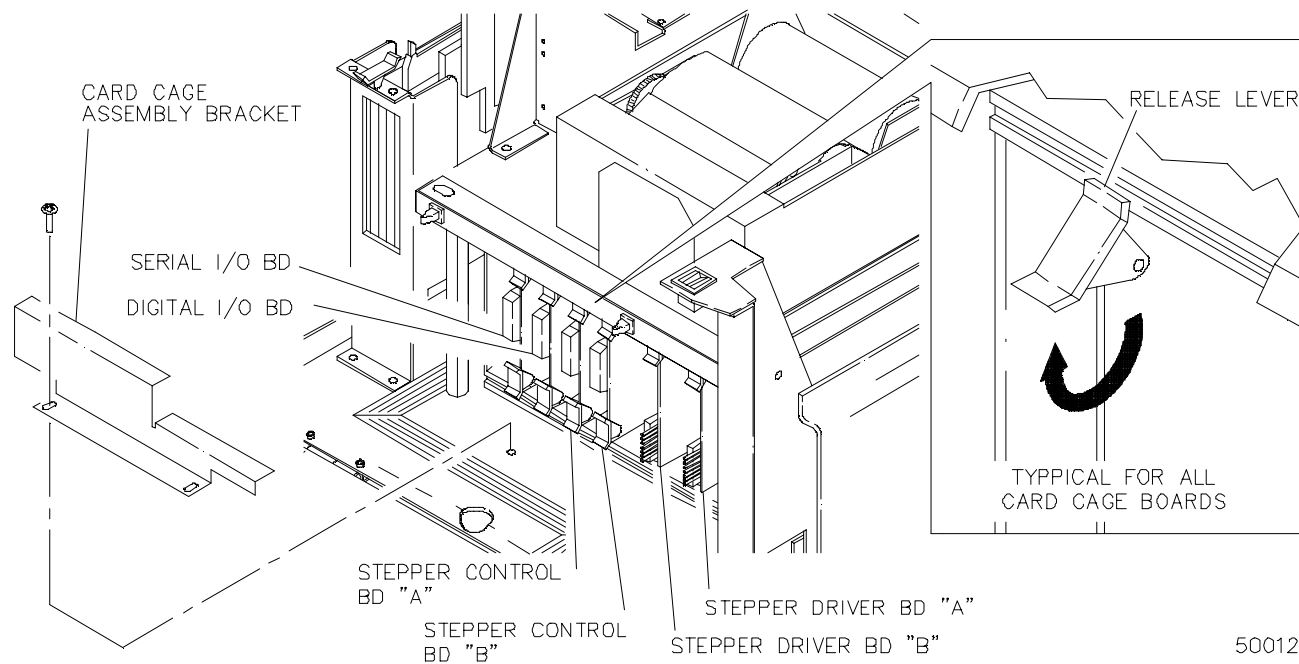

Figure 4-12. Card Cage Bds
4. Remove two screws on Card Cage Assy Bracket (**Figure 4-12**).
6. Press ejectors to disengage either of the boards. Remove board from slot. (See **Figure 4-12**.)
(See **Figure 4-12.**)
5. Press ejectors to disengage either of the boards. Remove board from slot. (See **Figure 4-12.**)
7. Remove Card Cage Assy Bracket mounting hardware from two places (**Figure 4-12**).